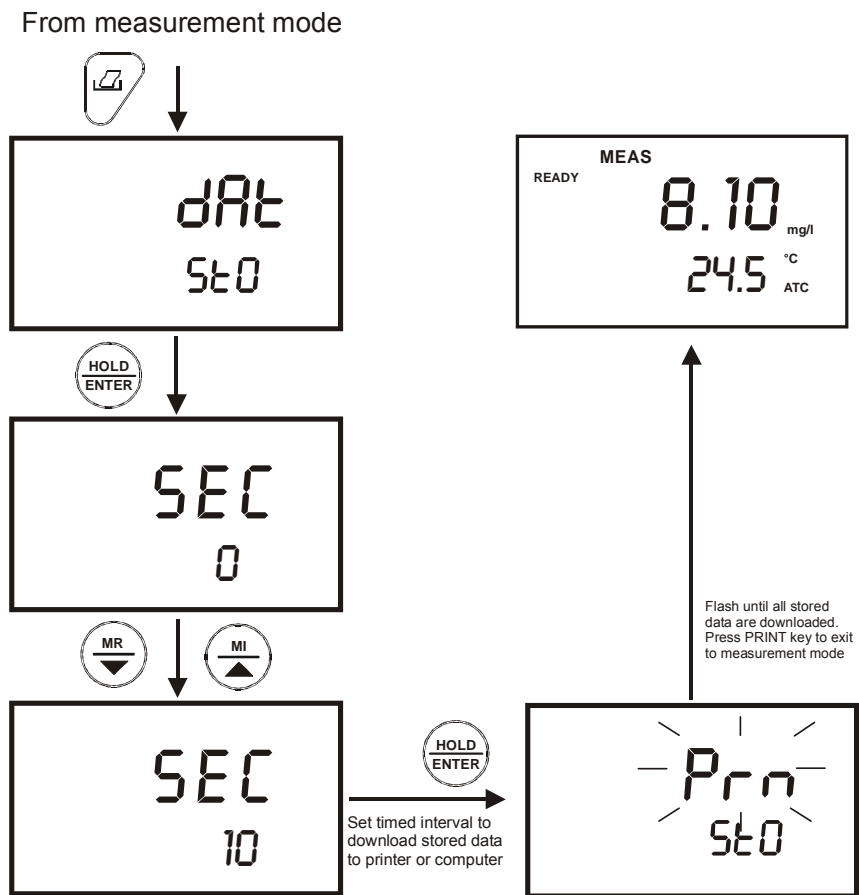

Figure 12: Print all stored data
5. To stop printing, press PRINT key and exit to measurement mode. See Figure 12.